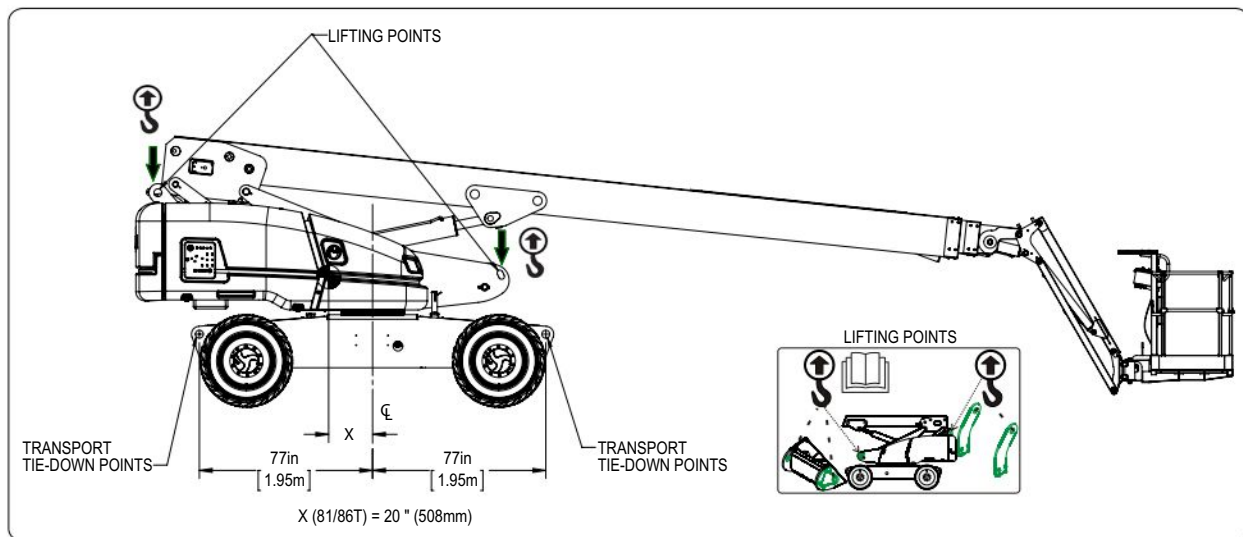

Figure 05 Lift points and approximate center of gravity
1. Rotate the boom and position the MEWP as shown in Figure 05.
4. Attach the rigging to all four lift points as shown in Figure 05.
5. Adjust the rigging to make sure the MEWP stays level when you hoist it. Refer to Figure 05 for the center of gravity location.